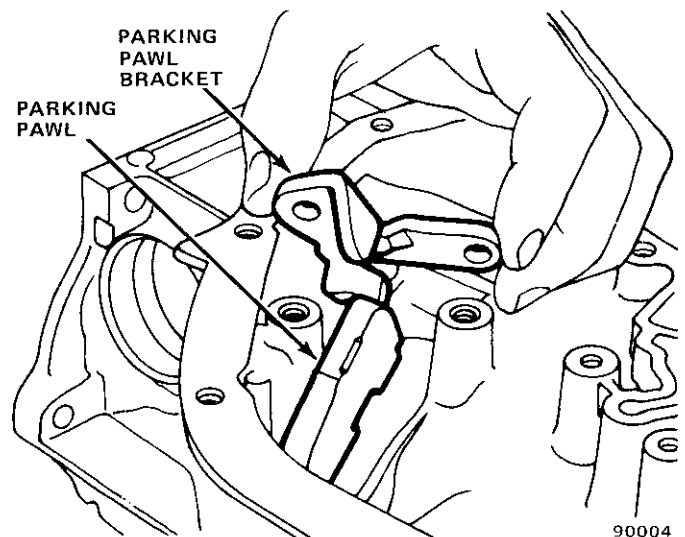

Fig. 2C-32 Parking Pawl Bracket Removal
(7) Remove retainer spring from parking pawl shaft (fig. 2C-33).